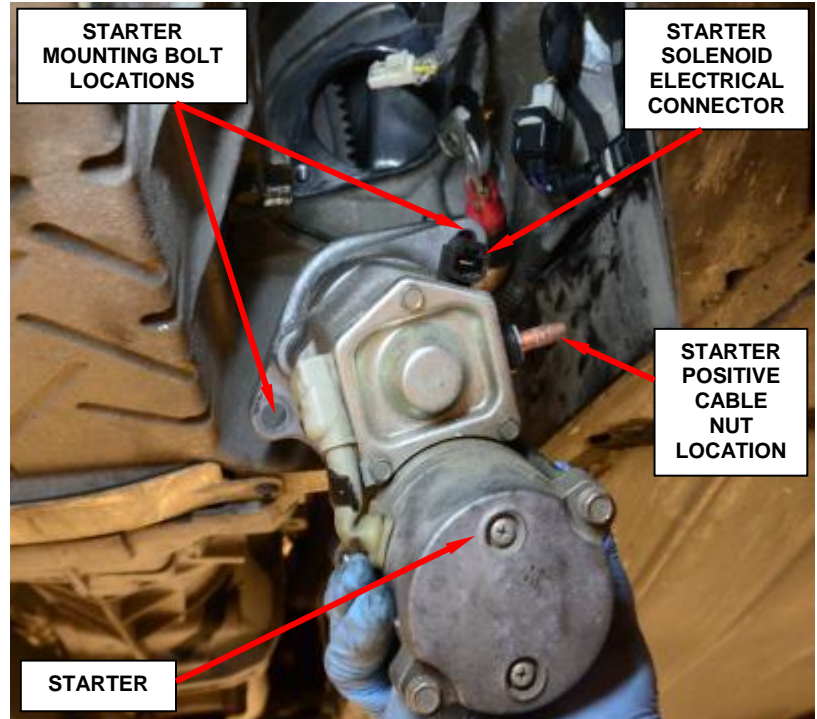

Figure 39 - Starter
45. Disconnect the starter solenoid electrical connector (Figure 39).
46. Remove the starter positive cable nut and remove the cable (Figure 39).
47. Remove the two starter mounting bolts and remove the starter (Figure 39).